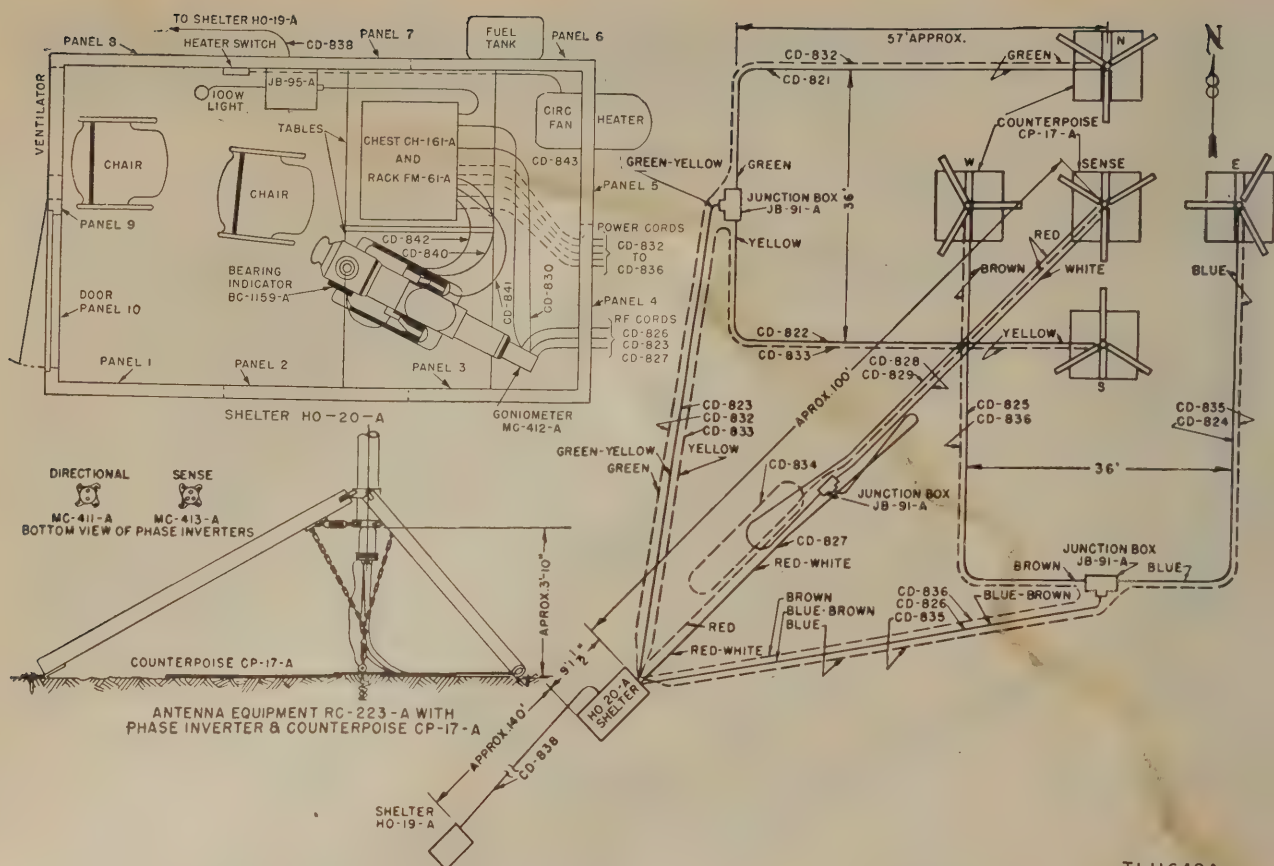

Figure 33. Radio Set SCR-291-A, layout of components.
- (12) Refer to paragraphs 15 and 39, and to the cording diagram on the rear door of Rack FM-61-A. Connect the interconnecting cords and cables between the components in the shelter.
*Note.* The cording diagrams (figs. 33 and 55) are for general information only. For equipments supplied on certain orders, Cords CD-831 through CD-836 are all marked CD-831, and Cords CD-820 through CD-827, are all marked CD-820. Individual cords in each group are distinguished by color coding.